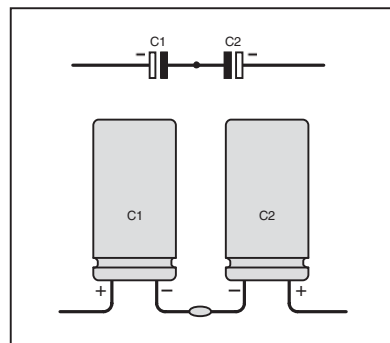

Fig.5. Creating a bipolar electrolytic from two capacitors.
The bipolar electrolytic capacitors used in crossover networks are available in a limited range of values. Capacitors of this kind can be formed by connecting two ordinary electrolytics back-to-back, and this makes possible the production of non-standard values. The details are given in Fig.5. Capacitors rated at 50V working
- C1 10µF bipolar radial elect. 50V (Alternatively, two 22µF standard elect. connected back-to-back – see text and Fig.5)